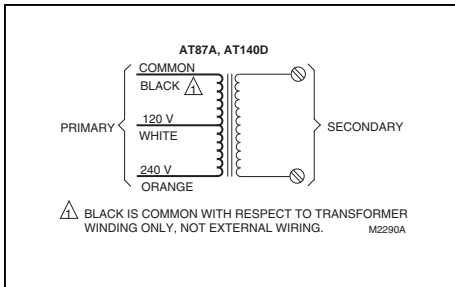

Fig. 1—AT87A and AT140D schematic drawing.
1. Connect primary leadwires to line voltage power supply. Use the correct leads for the available power supply. Refer to Fig. 1.